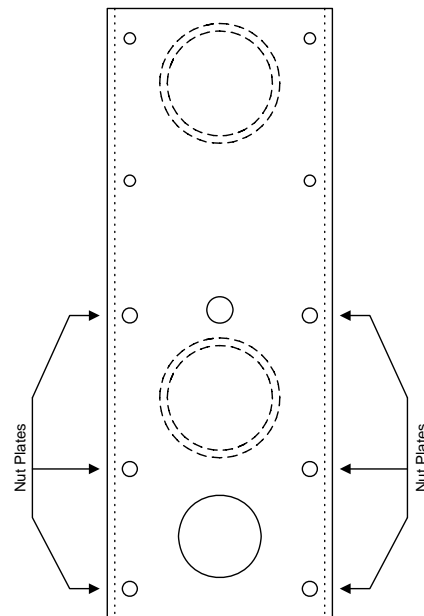

Figure 10
2. Gently place the operator on the mounting post assembly being sure to align all 6 nut plates and the 4 mounting bolts (Figure 10).